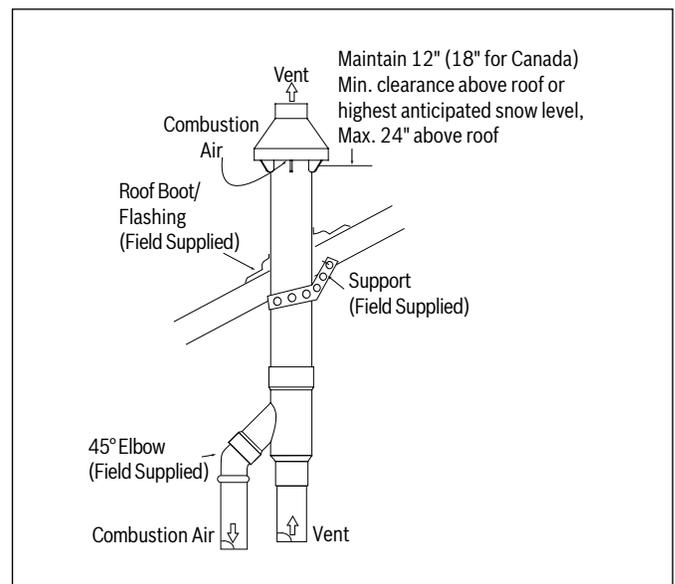

Figure 34
3. Partially assemble the concentric vent termination kit as shown in Figure 34 and Tables 14 and 15. Cement Y concentric vent fitting to larger diameter kit pipe. See Tables 14 and 15. Cement rain cap to smaller diameter kit pipe. See Tables 14 and 15.
4. Install cemented Y concentric fitting and pipe assembly through structure's hole and field supplied roof boot/ flashing. See Figure 34.